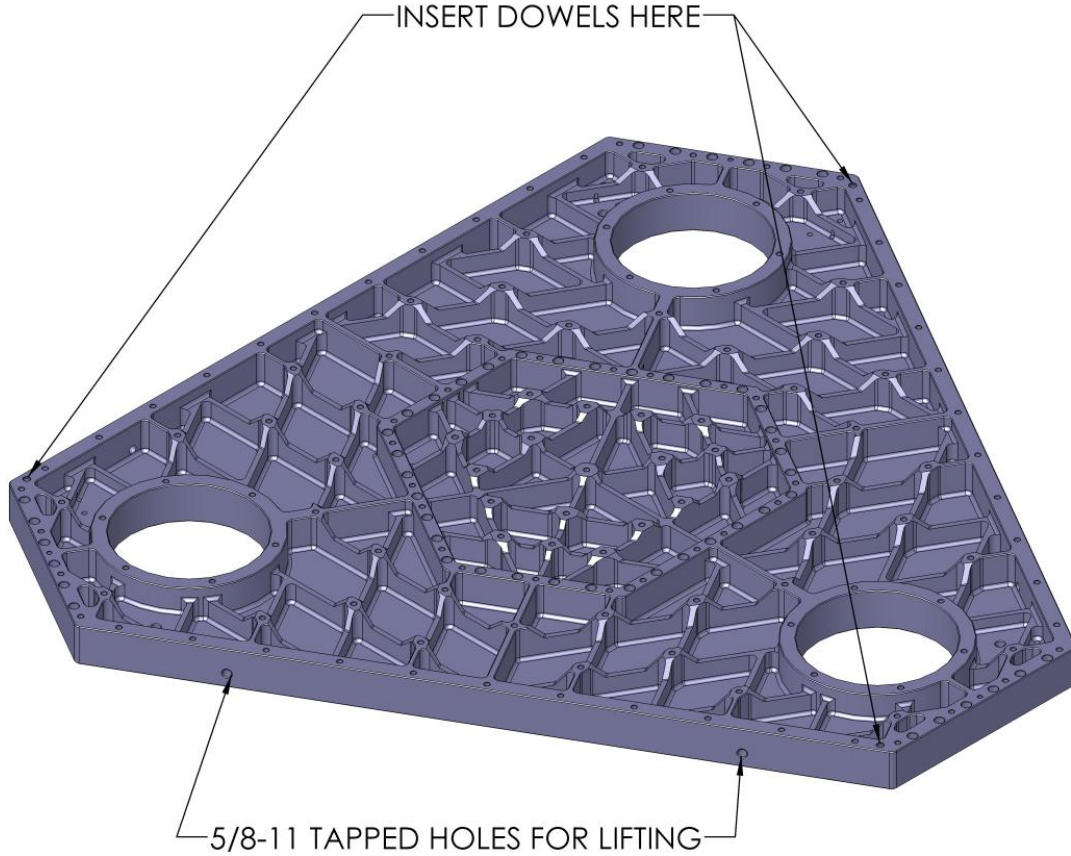

Figure 8
1. Rotate plate install dowel pins in locations noted, Insert 1/2 x 1.25" dowel pins see Appendix C for p/n and illustration for 1/2 x 1.25 dowel pin see Figure 8